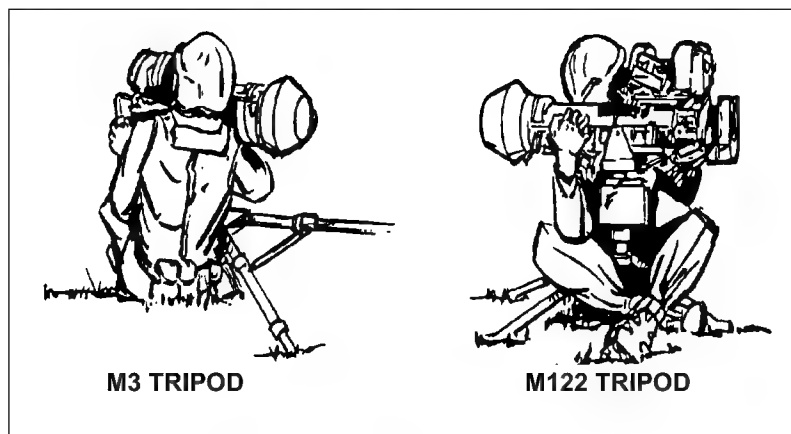

Figure E-7. M3/M122 machine gun tripods.
(4) Azimuth and elevation dampers on the M175 mount reduce vibrations and help the gunner track more smoothly.
b. **M3/M122 Machine Gun Tripods.** The gunner can use either the M3 or the M122 machine gun tripod (Figure E-7) to fire the Dragon from a ground support position.